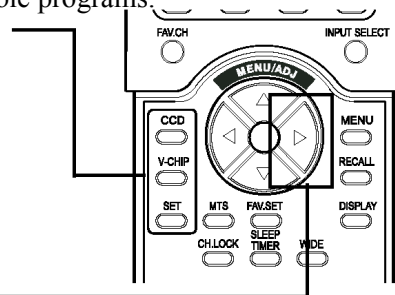

Figure 1
3. The first menu in Figure 1 is displayed. Press the Menu/ADJ $\leftarrow \rightarrow$ key to toggle between ON or OFF. To turn on parental guide, highlight to ON.